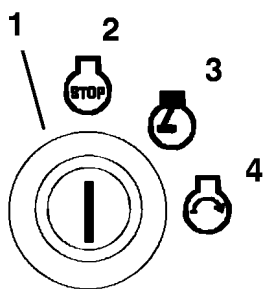

Figure 14
- Turn the ignition key clockwise to the run position (Figure 14). The glow plug light will turn on.
- Turn the ignition key to the off position (Figure 14). Wait for all moving parts to stop before leaving the operating position.